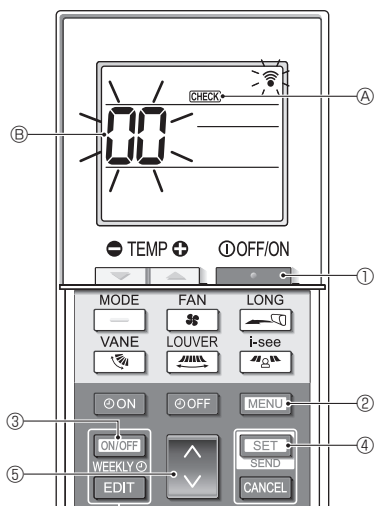

Fig. 7-6
■ Self-check (Fig. 7-6)
- Press the [ON/OFF] button ① to stop the air conditioner.
- If the weekly timer is enabled (WEEKLY is on), press the [ON/OFF WEEKLY] button ③ to disable it (WEEKLY is off).
- Press the [MENU] button ② for 5 seconds.
- Press the [DOWN] button ⑤ to select the refrigerant address (M-NET address) B of the indoor unit for which you want to perform the self-check.
- Press the [SET] button ④.
- Press the [ON/OFF] button ①.